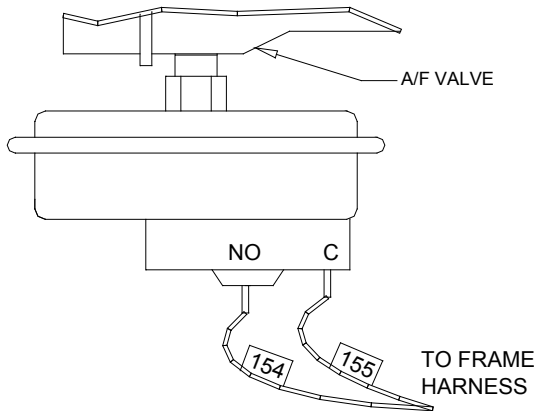

Figure 6.4
2. Disconnect wire #155 from the air pressure switch located on the air/fuel valve (See Fig. 6.4).